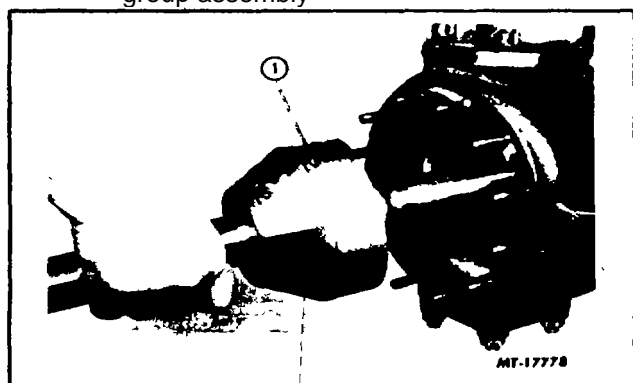

Fig. 22. Axle Shaft and Universal Joint Assembly
6. Install axle shaft and universal joint assembly in axle housing indexing splined end of axle shaft with side gear of center unit (Fig. 22).